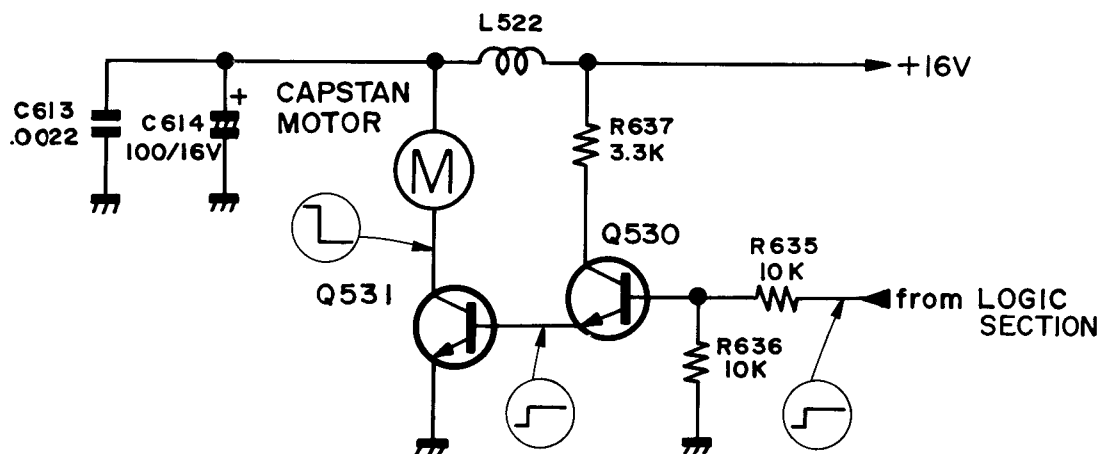

Figure 27-2
3. 4. 10 Capstan Motor Drive Circuit (Refer to Figure 27-2)